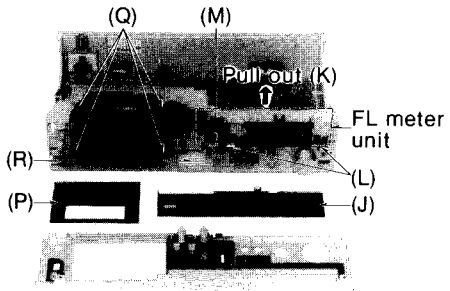
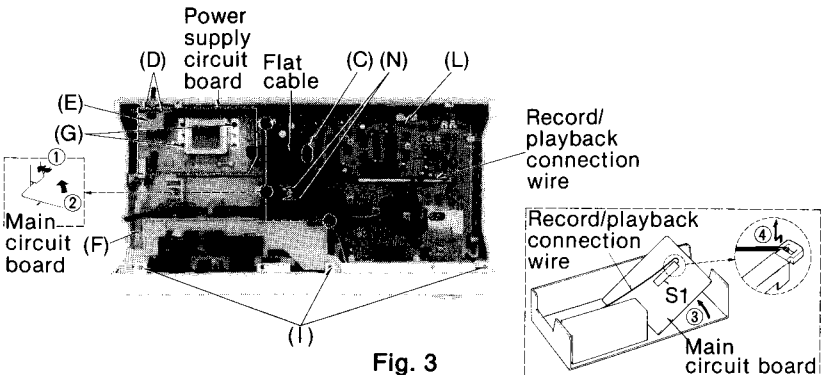
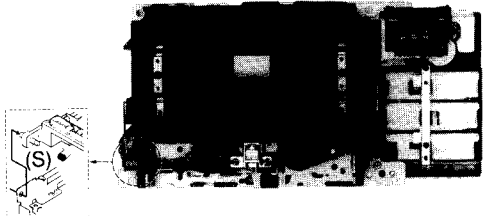

Fig. 4
Fig. 3
Fig. 5
<p>B Head azimuth adjustment</p> <p>Condition:</p> <ul style="list-style-type: none"> • Playback mode <p>Equipment:</p> <ul style="list-style-type: none"> • VTVM • Oscilloscope • Test tape (azimuth) ... QZZCFM 	<p>L-ch/R-ch output balance adjustment</p> <ol style="list-style-type: none"> 1 Make connections as shown in fig. 3. 2 Playback the 8kHz signal from the test tape (QZZCFM). Adjust screw (B) in fig. 4 for maximum output L-ch and R-ch levels. <p>When the output levels of L-ch and R-ch are not at maximum at the same time, readjust as follows.</p> <ol style="list-style-type: none"> 3 Turn the screw shown in fig. 4 to find angles A and C (points where peak output levels for left and right channels are obtained). Then, locate the angle B between angles A and C, i.e., a point where L-ch and R-ch output levels come together at maximum. (Refer to figs. 4 and 5.) <p>L-ch/R-ch phase adjustment</p> <ol style="list-style-type: none"> 4 Make connections as shown in fig. 6. 5 Playback the 8kHz signal from the test tape (QZZCFM). Adjust screw (B) shown in fig. 4 so that pointers of the two VTVMs swing to maximum and a waveform as illustrated in fig. 7 is obtained on the oscilloscope.  <p style="text-align: center;">Fig. 3</p>  <p style="text-align: center;">Fig. 4</p>  <p style="text-align: center;">Fig. 5</p>  <p style="text-align: center;">Fig. 7</p>  <p style="text-align: center;">Fig. 6</p>
<p>㊦ Playback frequency response</p> <p>Condition:</p> <ul style="list-style-type: none"> • Playback mode • Tape selector ... Normal position <p>Equipment:</p> <ul style="list-style-type: none"> • VTVM • Oscilloscope • Test tape ... QZZCFM 	<ol style="list-style-type: none"> 1. Test equipment connection is shown in fig. 3. 2. Place UNIT into playback mode 3. Playback the frequency response test tape (QZZCFM). 4. Measure output level at 315Hz, 12.5kHz, 8kHz, 4kHz, 1kHz, 250Hz, 125Hz and 63Hz, and compare each output level with the standard frequency 315Hz, at LINE OUT. 5. Make measurement for both channels. 6. Make sure that the measured value is within the range specified in the frequency response chart (shown in fig. 9). <div data-bbox="917 230 1441 510" style="text-align: center;"> <p>Playback frequency response chart</p> </div> <p style="text-align: center;">Fig. 9</p>
<p>㊦ Playback gain</p> <p>Condition:</p> <ul style="list-style-type: none"> • Playback mode • Tape selector ... Normal position <p>Equipment:</p> <ul style="list-style-type: none"> • VTVM • Oscilloscope • Test tape ... QZZCFM 	<ol style="list-style-type: none"> 1. Test equipment connection is shown in fig. 3. 2. Playback standard recording level portion on test tape (QZZCFM 315Hz), and using VTVM measure the output level at LINE OUT. 3. Make measurement for both channels <div data-bbox="528 712 1410 779" style="border: 1px solid black; padding: 5px; text-align: center;"> <p>Standard value: 455 mV ± 1 dB [around 280 mV: at test points TP3 (L-CH) and TP4 (R-CH)]</p> </div> <p>Adjustment</p> <ol style="list-style-type: none"> 1. If measured value is not within standard, adjust VR3 (L-CH), VR4 (R-CH) (See fig. 1 on page 3). 2. After adjustment, check "Playback frequency response" again